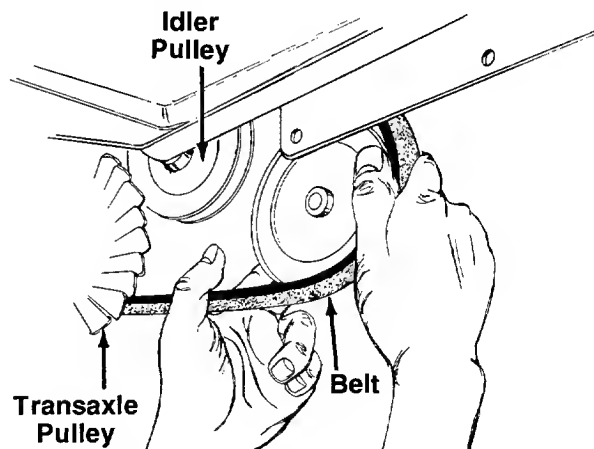

FIGURE 19.
4. Pull idler pulley down, and remove the belt. See figure 19.